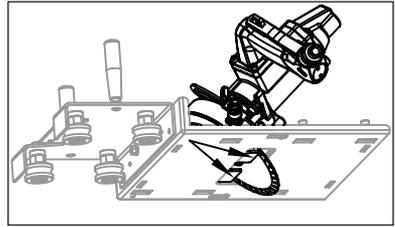

Figure 8
2. Place the Stone Cutter with the blade already mounted and positioned in the 45 degree angle onto the Carriage Base. Align the Stone Cutter so the blade makes flush contact with Template-M2. (See Figure 8)